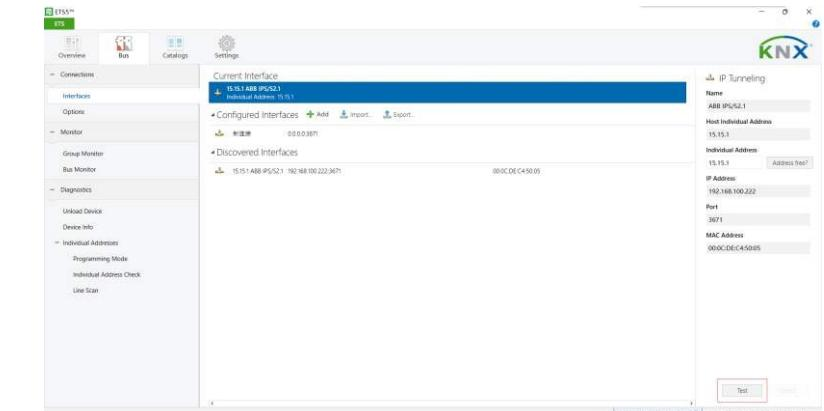

Figure 18
2.5. Click to choose the interface under “**Current Interface**” as shown in Figure 18.